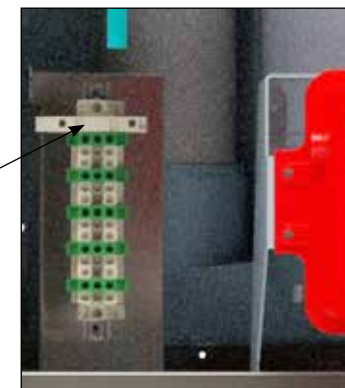

Fig. 25 - Terminal Strip Location
- A 2.5A fuse is also located on the terminal strip, to protect the outputs. Refer to *Fig. 25 on page 41*.
- Connect a dedicated 120 VAC/15A service to the line voltage terminals located internally in the lower left corner, as shown in Fig. 25 below.
- Connect the CH1 & CH2 circulator wiring to the respective line voltage terminals located internally in the lower left corner, as shown in Fig. 25 on the left. This circulator is typically used to supply heat to the central/ space heating loop.
- Connect the DHW circulator wiring to the line voltage terminals located internally in the lower left corner, as shown in Fig. 25 on the left. This circulator is typically used to supply heat to an indirect hot water heater.
- Connect the boiler system pump wiring to the line voltage terminals located internally in the lower left corner, as shown in Fig. 25 on the left.